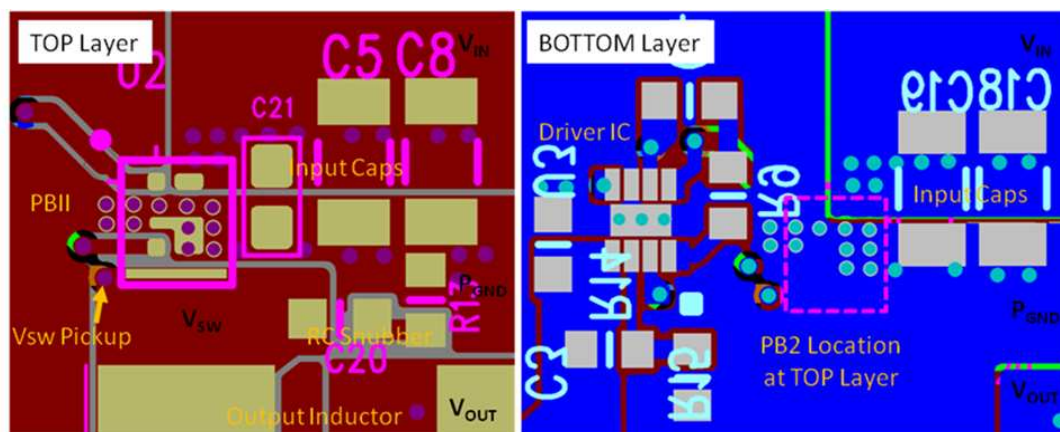

Figure 29. Recommended PCB Layout (Top Down View)
- The placement of the input capacitors relative to VIN and PGND pins of CSD87381P device should have the highest priority during the component placement routine. It is critical to minimize these node lengths. As such, ceramic input capacitors need to be placed as close as possible to the VIN and PGND pins (see Figure 29). The example in Figure 29 uses 1 x 10 nF 0402 25 V and 4 x 10 μF 1206 25 V ceramic capacitors (TDK part number C3216X5R1C106KT or equivalent). Notice there are ceramic capacitors on both sides of the board with an appropriate amount of vias interconnecting both layers. In terms of priority of placement next to the power stage, C21, C5, C8, C19, and C18 should follow in order.
- The switching node of the output inductor should be placed relatively close to the Power Block II CSD87381P VSW pins. Minimizing the VSW node length between these two components will reduce the PCB conduction losses and actually reduce the switching noise level. See Figure 29. ⁽¹⁾
- Use the smallest drill size allowed in your design. The example in Figure 29 uses vias with a 10 mil drill hole and a 16 mil capture pad.